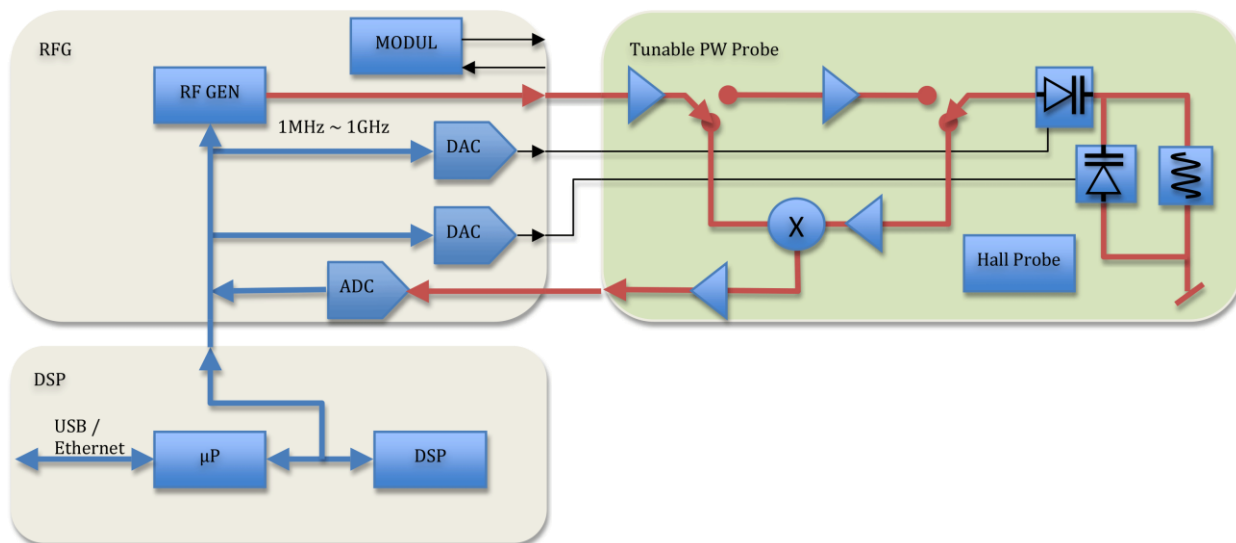

Figure 6. PT2026 functional block diagram.
For almost a decade, Metrolab has been working on a new-generation, “all digital” NMR magnetometer, the PT2026. As we can see from Figure 6, the term “all digital” is to be taken with a grain of salt: “all digital control” is more accurate. Other important technical improvements include:
- **Detection:** support for either continuous-wave (CW, like PT2025) or pulsed-wave (PW, as shown in Figure 6). Improved performance in poor-SNR environments due to sophisticated Digital Signal Processing (DSP).